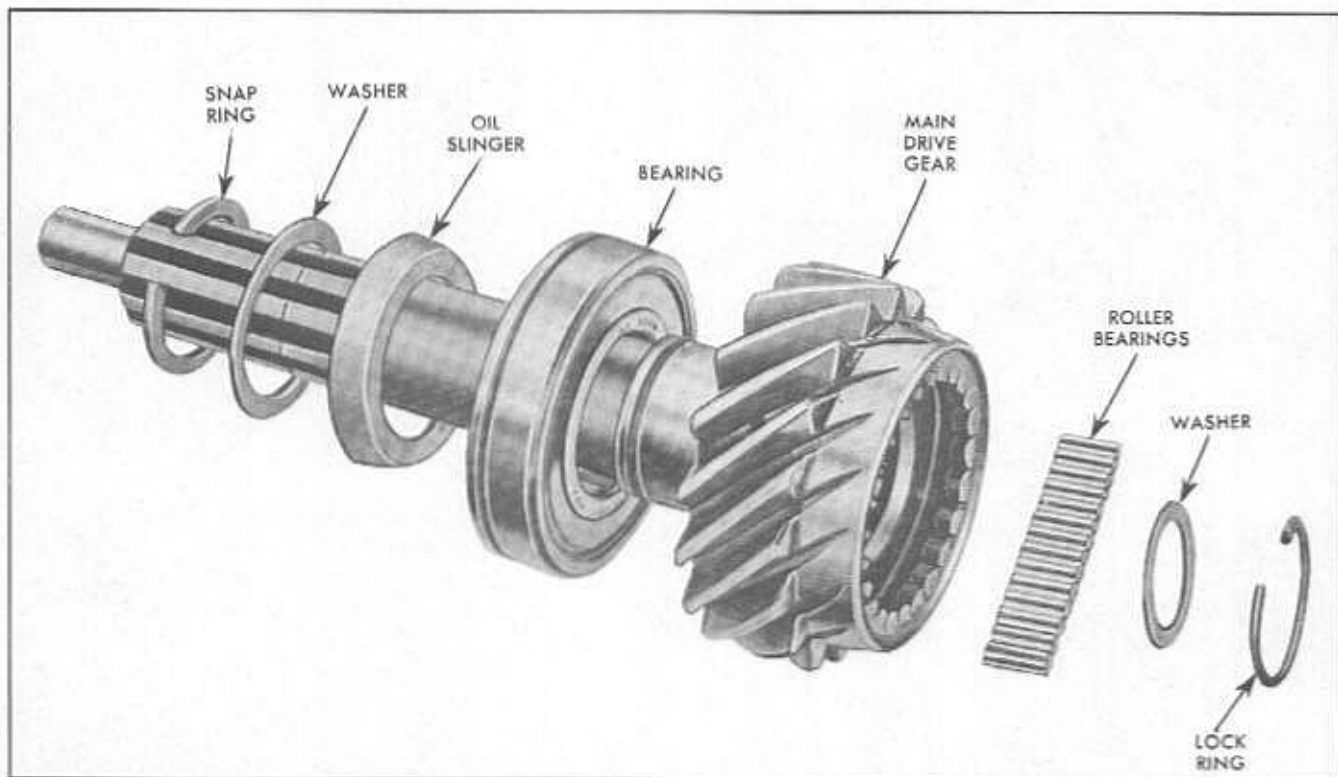

Fig. 7-26 Main Drive Gear and Front Bearing Assembly
1. Remove snap ring, washer, and oil slinger holding main drive gear bearing to gear (Fig. 7-26).